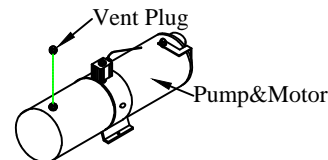

Figure 15: Vent plug.
- 2. Unscrew** the solid plastic plug from the pump reservoir and **Install** the vent plug provided (Figure 15).